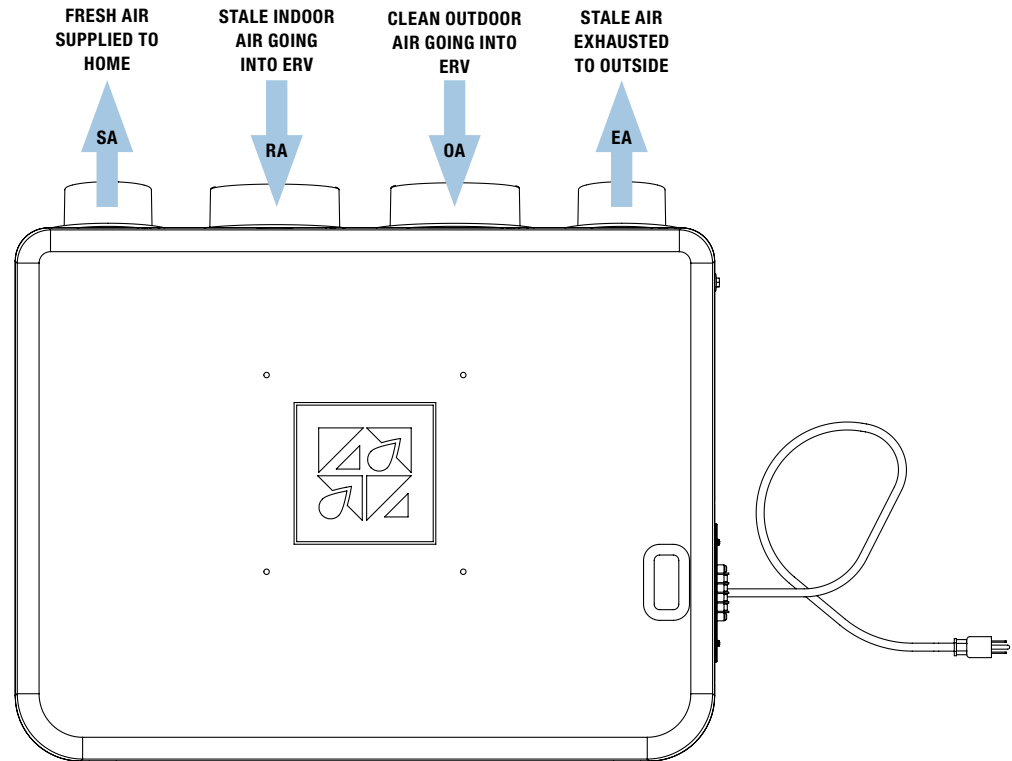

FIGURE 5.0.0 AERI AIRFLOW PATTERN
**NOTE:** Airstreams may be swapped during installation. This is an acceptable installation that does not effect unit performance or warranty. If airstreams are swapped, the OA and RA arrows will switch positions in Figure 5.0.0, as well as the EA and SA arrows. The installer should note if airstreams are swapped.